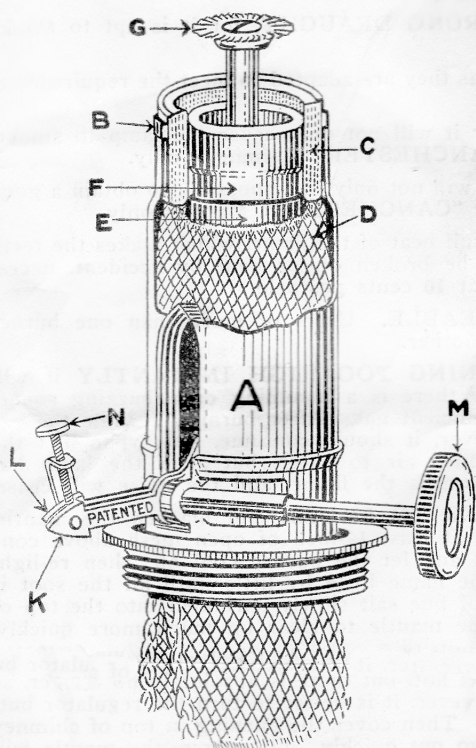

FIG 2
1. REMOVE THE GALLERY (chimney holder) (Fig. 1) from the burner (Fig. 2), screw the burner into lamp, fill lamp with kerosene (coal oil) and allow wick to soak.
2. REMOVE BURNER CAP (B) (See Fig. 2), which contains the carbon-cylinder (C) by a slight turn to the left and lift it out. Soak carbon-cylinder in kerosene for two hours without removing it from burner cap. Then before replacing the burner cap, see that the carbon-cylinder is even all around with the inside top rim of the burner cap. Now replace burner cap pressing it down, turning it to the right as far as it will go and be sure that it is locked.
3. ALWAYS MAKE SURE THAT THE CARBON-CYLINDER (C) comes in actual contact with the wick (D). If not, the oil will not properly feed the carbon-cylinder. If by accident the wick has been pulled too far down to raise it remove burner cap (B) and carbon-cylinder, then raise wick from the top of burner by means of a hat pin or similar instrument, until level with the top of the inside burner tube (E) in which the regulator tube (F) slides. Make sure that the spreader (G) is pushed down on its supporting rod (in the center of burner) as far as possible.
10. THE SPREADER (G) is subjected to the full heat of the flame, which makes the teeth of the spreader brittle. If any of the teeth should be broken off or bent by accident, necessitating a new spreader, we can supply a new one at 10 cents postpaid.
13. IF YOU HAVE ALLOWED THE BURNER TO SMOKE and blacken the mantle, the soot can easily be removed, providing there is at least 1/2-inch of open mesh above cone (H) not blackened. To do so extinguish the light and let the burner cool off; then re-light the lamp, allowing it to burn dimly, turning up the flame little by little until all the soot is burned off. In stubborn cases, a very small pinch of fine salt slowly sprinkled into the top of the chimney with the light turned low, will help the mantle to clear up much more quickly.
15. TO RENEW WICK. Remove the burner cap (B) (See Fig. 2), and remove the old wick by pulling downward, but be careful not to strain the burner. The wick space is divided into two sections by two wick supports which can readily be seen after the wick and carbon-cylinder have been removed, by holding the burner up to the light and looking through it. Insert the linen ends of the wick through top of burner each in its proper section. Then pull the wick through slowly and evenly from the bottom until top of wick is even all around with the top of the inside burner tube (E) in which the regulator tube (F) slides. Use wicks stamped "CANCHESTER."